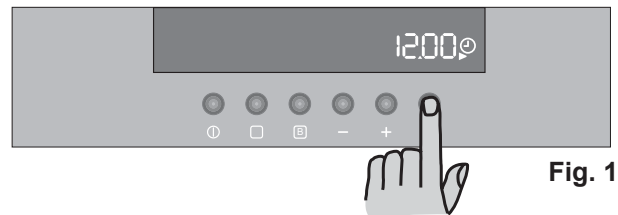

Fig. 1
a) press button  and, while the symbol  is flashing (Fig. 1), set the correct time of day by pressing buttons “-” or “+” (Fig. 2).